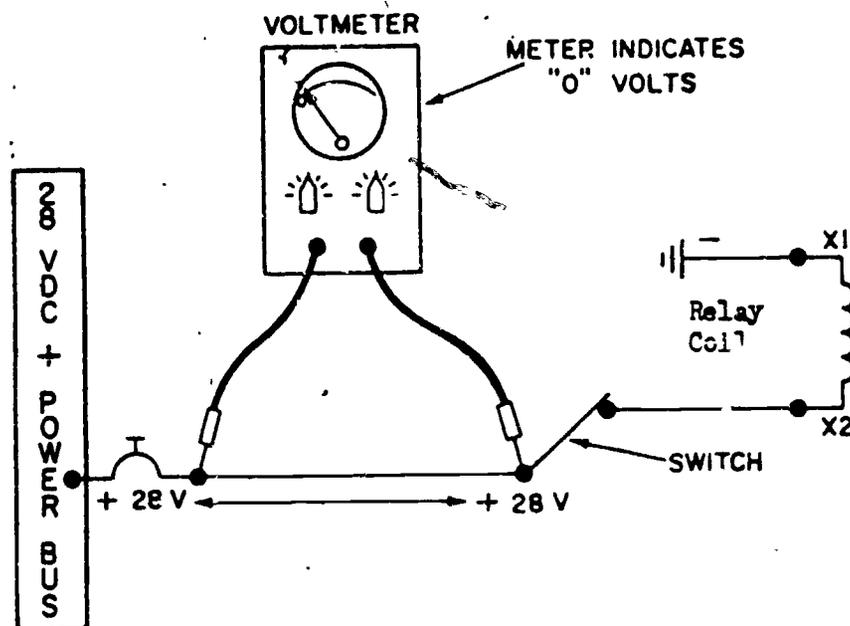

Figure 1.
(1) To better understand what is meant by this, look at figure 1 below and continue reading.
(2) If the voltmeter leads were placed into the circuit as shown in figure 1, the meter would indicate a "0" (zero) voltage reading. The reason is because the wire between the two leads allows the same voltage (pressure) to exist at both ends of it. Because it's the same at both ends, the meter cannot measure a difference.
(3) In figure 1 locate the 28V DC bus (+) and note that the wire coming off the bus is merely an extension of the positive power source going through a protective device (CB). Therefore, the wire is as equally positive at the power bus as it is at the pole of the switch.
Note: Because of the reading of zero voltage in figures 1 and 2 these two wires are GOOD circuits WITHOUT opens.